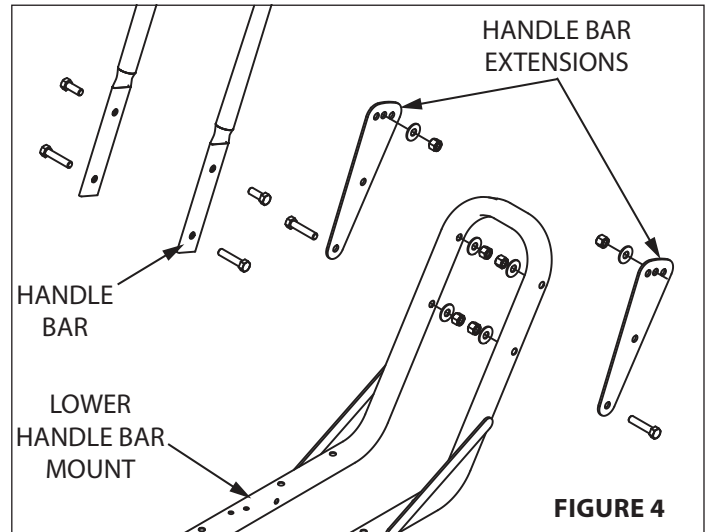

FIGURE 4
1. Locate handle bar extensions. **SEE FIGURE 4**
2. Place handle bar extensions on outside of lower handle bar mount. Line up the handle bar extension pieces with the lower handle bar mount as shown in the decal located on the lower handle bar mount next to the mounting location. **SEE FIGURE 4**